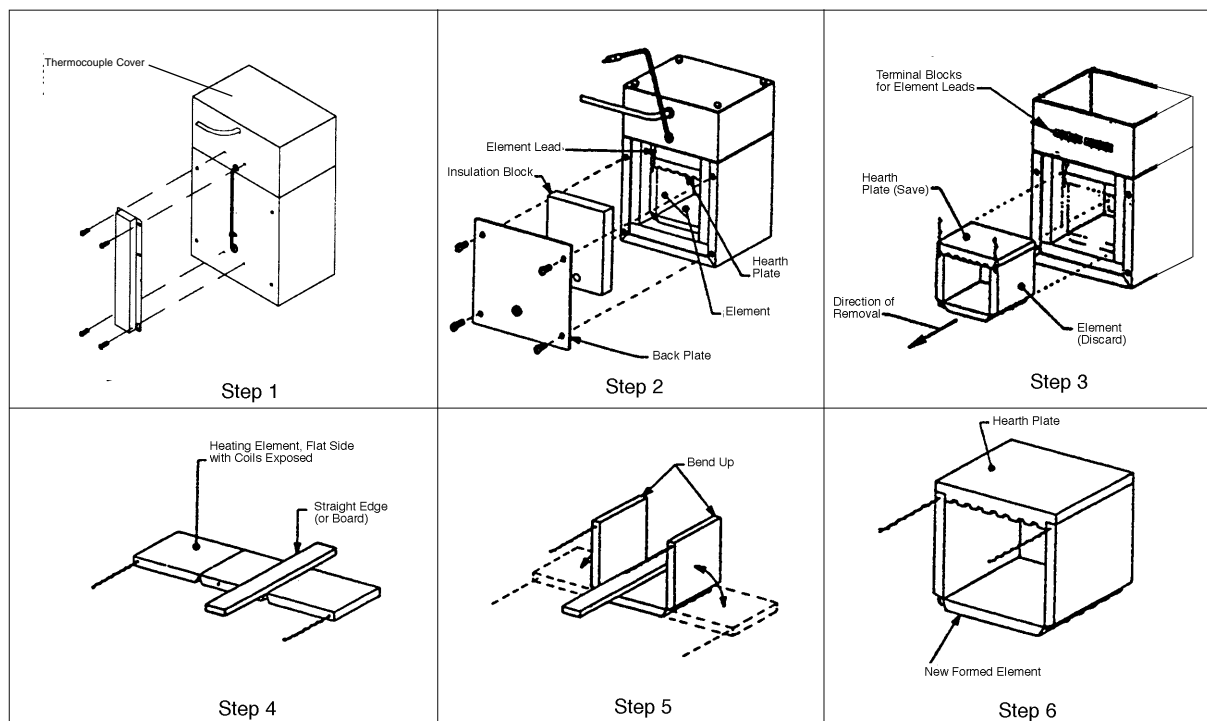

Figure 3: Replacement of a Heating Element
1. Set the furnace on its top. (See Figure 3). Remove thermocouple cover.